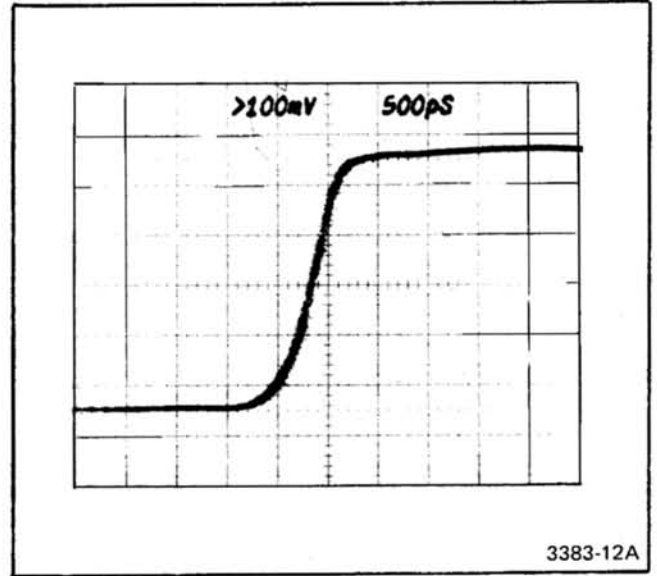

Fig. 4-2. Typical response curve of sampling system.
q. Using the 7S11 Dc Offset, center the step top in the display area. Refer to Fig. 4-2.
s. The sampling system aberrations can now be determined, and noted (for use in checking risetime and aberrations). Refer to Fig. 4-2.
- n. Position the display to measure the risetime. Refer to Fig. 4-2.